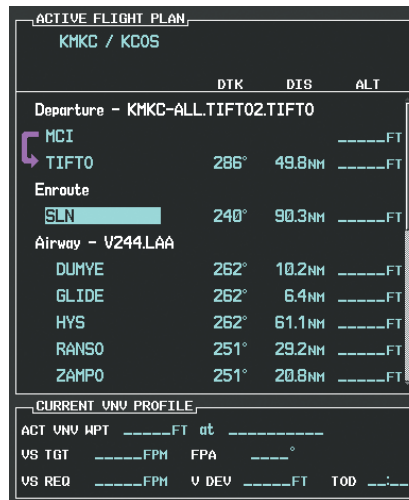

Figure 5-108 Begin Adding V4 to the Flight Plan
b) The desired entry point for V4 (TOP) must be entered. Turn the large **FMS** Knob to highlight the desired flight plan insertion point (SLN) as shown in Figure 5-108. When the V4 entry point (TOP) is inserted, it is placed immediately above the highlighted waypoint (SLN).